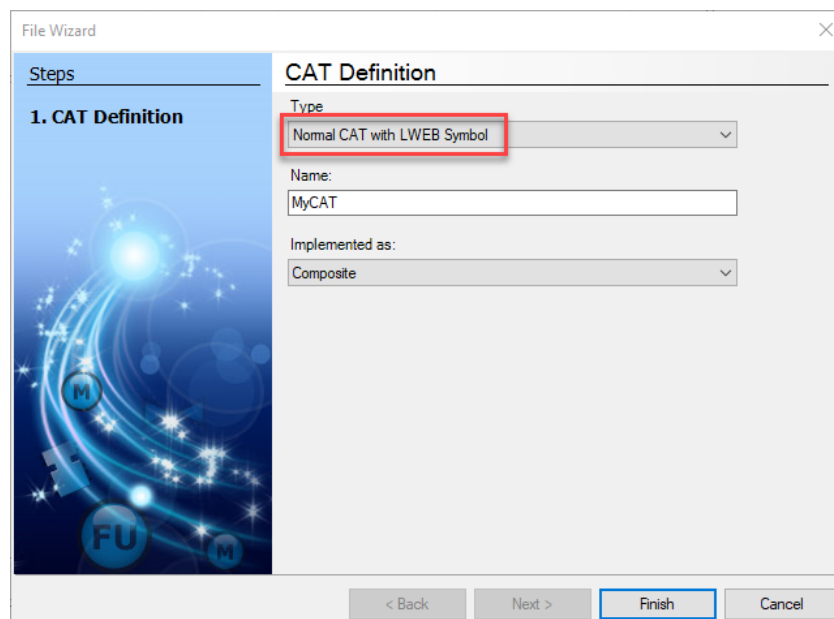

Figure 48: Create a 61499 CAT to embed the 61131 program.
10. To embed the program block into the 61499 runtime, create a normal CAT: In the ‘KickStart’ solution tree, select **CAT** → **Application**. Then right-click and choose **New Item**. Select **Normal CAT** and type in a name. Then click **Finish** as shown in Figure 48.